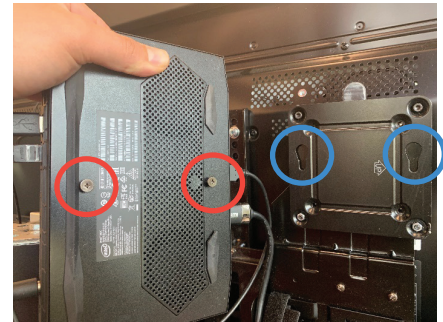

Figure 11 - Computer and computer mount
- The computer has two pins attached, circled in red in Figure 11, that fit into the slots on the computer mount, circled in blue in Figure 11, located on the back of the monitor bracket.